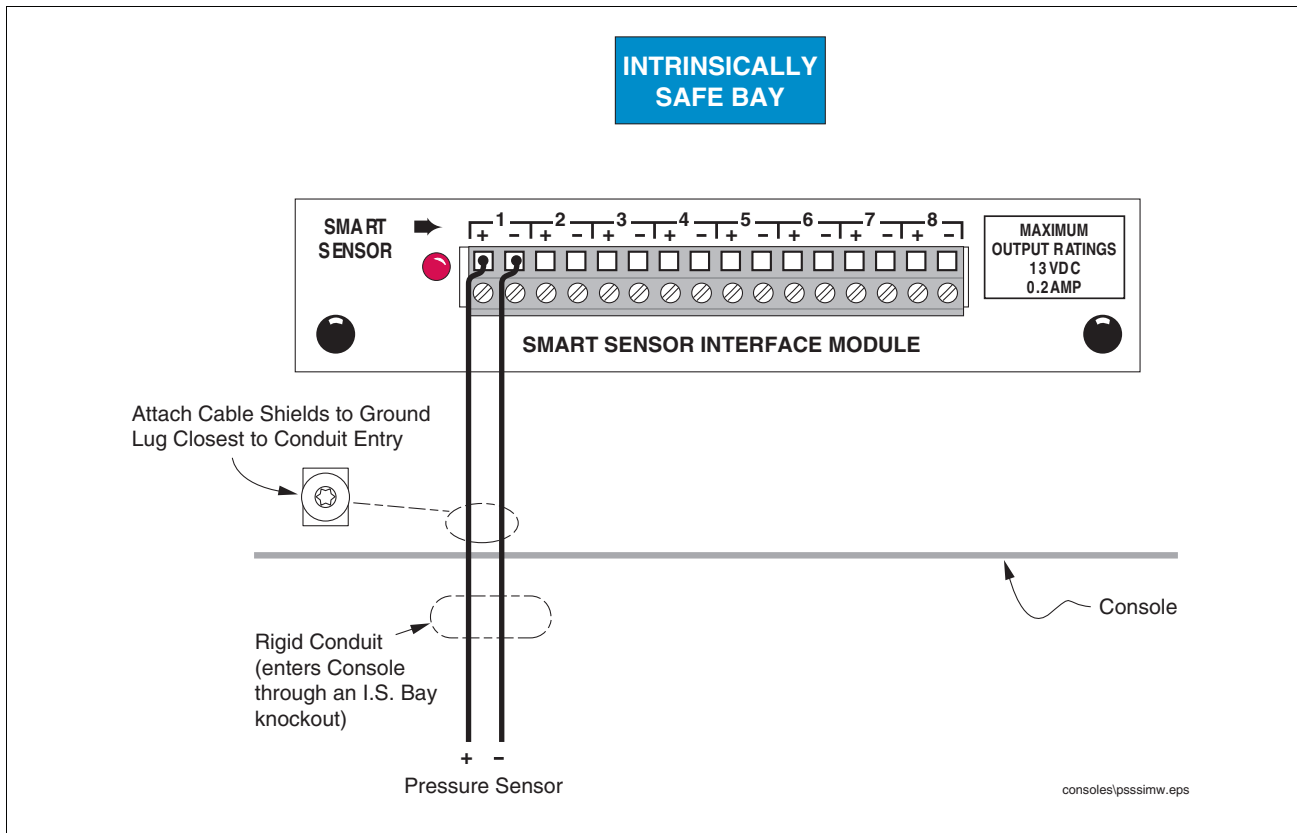

Figure 5. Connecting Pressure Sensor to TLS-3XX Smart Sensor Interface Module
14. Terminate field wiring into TLS Console and connect to Smart Sensor Module (TLS-3XX - Figure 5). Note: observe polarity! The cable length between the console and sensor must not exceed the distance stated in the TLS-3XX Site Prep manual (P/N 576013-879).